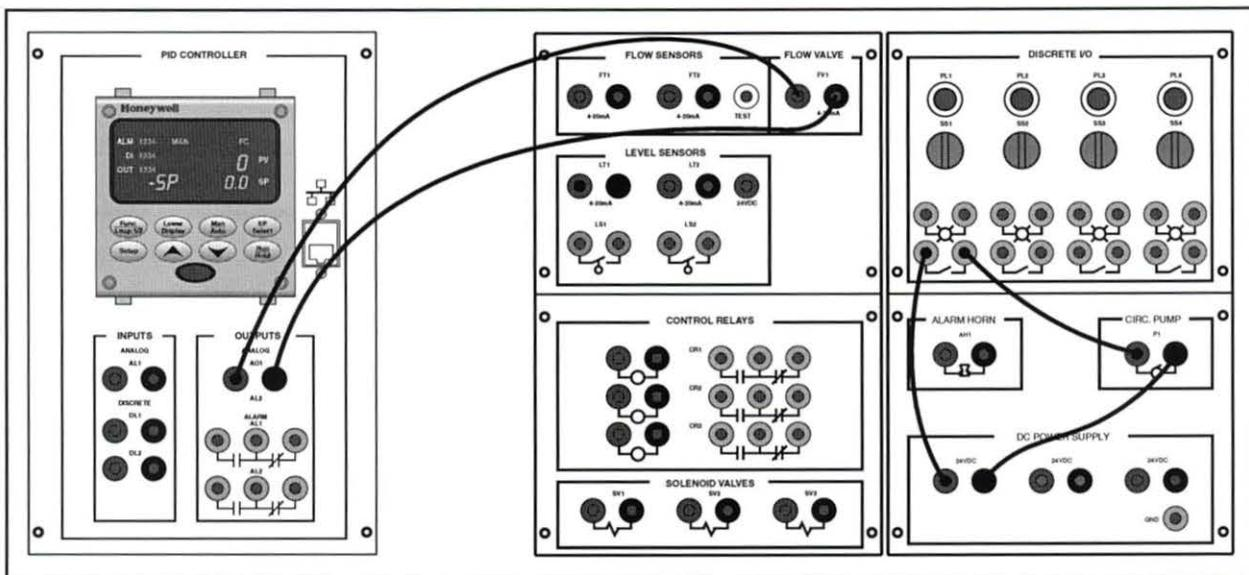

Figure 49. Manual Level Control Circuit Using the Honeywell Controller
3. Connect the circuit shown in figure 49.